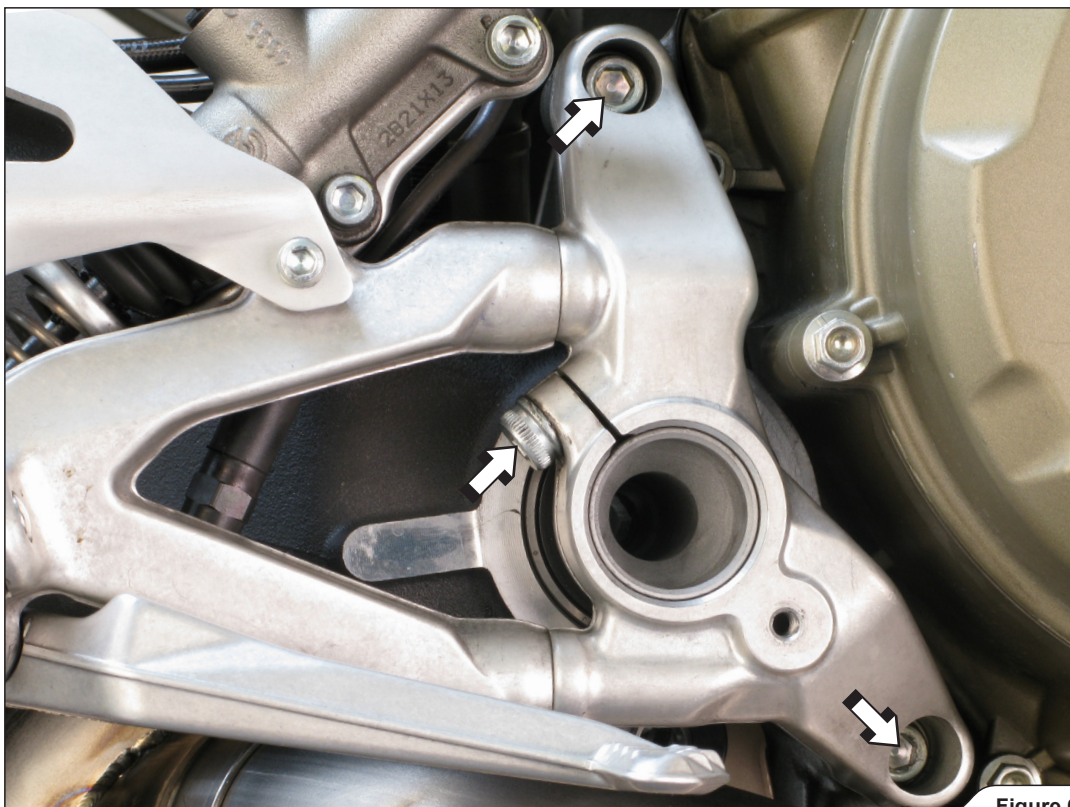

Figure 6
5. Unscrew the marked bolts and partially remove the right rider's foot rest (Figure 6).